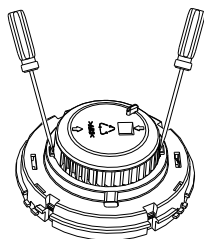

Fig. 5
a) Open the top cover of detector, and draw out the sensing chamber by slightly lifting its two sides using a straight screwdriver, as shown in Fig. 5.